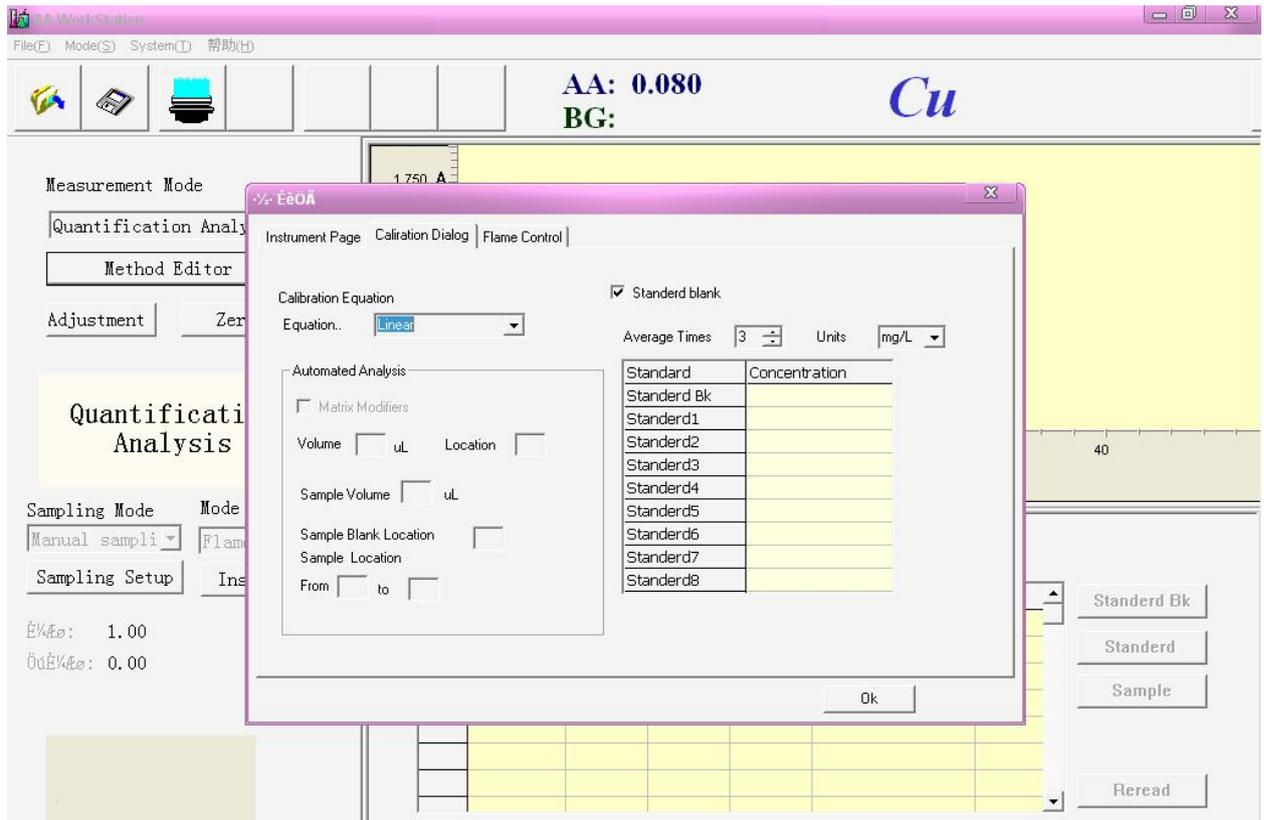

Figure 5-2
6. Press **【Method Editor】**, open "Calibration Dialog" window (Figure 5-2)